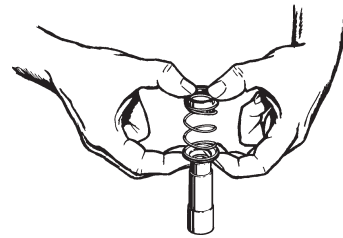

Figure 4-3
- 8. Remove the rotating element from the sleeve. Refer to Figure 4-3. The element normally adheres tightly to the sleeve and some force may be necessary to remove it. This is common and if care is taken, the element can be reassembled and reused. **It is recommended that a new rotating element be used for reassembly.** DO NOT attempt to remove the seal using a screwdriver or other sharp object. Extensive damage to the shaft, sleeve, or element could occur.